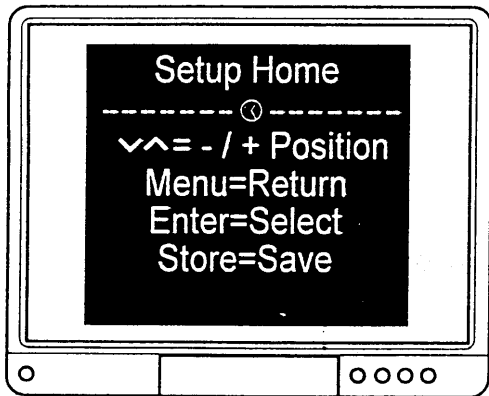

Figure 13.
- Step 2. Press 'Enter' on the keypad, the on-screen display will change to display figure 13.